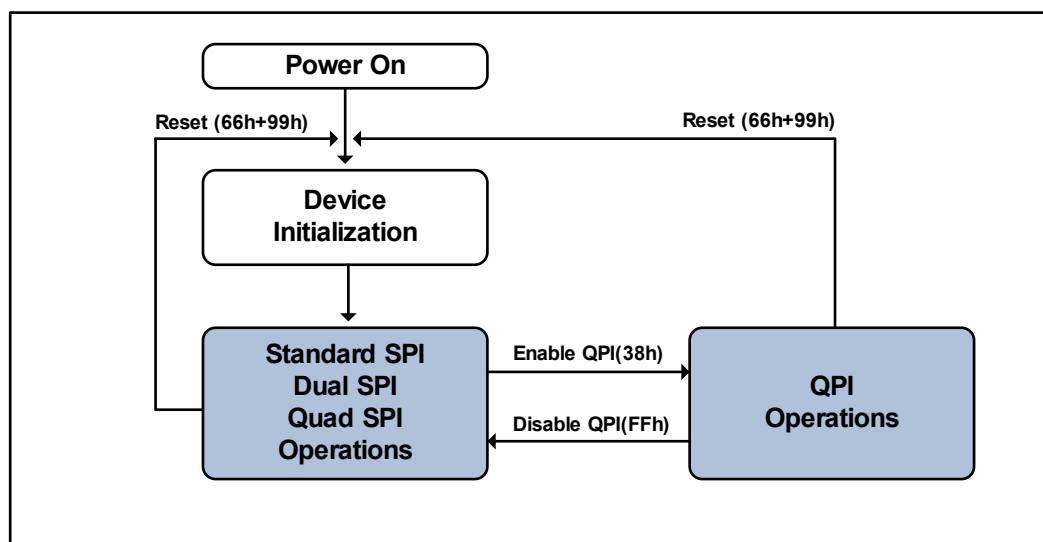

Figure 3. DS25M4AE Serial Flash Memory Operation Diagram
The DS25M4AE supports Quad Peripheral Interface (QPI) operations only when the device is switched from Standard/Dual/Quad SPI mode to QPI mode using the “Enter QPI (38h)” instruction. The typical SPI protocol requires that the byte-long instruction code being shifted into the device only via DI pin in eight serial clocks. The QPI mode utilizes all four IO pins to input the instruction code, thus only two serial clocks are required. This can significantly reduce the SPI instruction overhead and improve system performance in an XIP environment. Standard/Dual/Quad SPI mode and QPI mode are exclusive. Only one mode can be active at any given time. “Enter QPI (38h)” and “Exit QPI (FFh)” instructions are used to switch between these two modes. Upon power-up or after a software reset using “Reset (99h)” instruction, the default state of the device is Standard/Dual/Quad SPI mode. To enable QPI mode, the non-volatile Quad Enable bit (QE) in Status Register-2 is required to be set. When using QPI instructions, the DI and DO pins become bidirectional IO0 and IO1, and the /WP and /HOLD pins become IO2 and IO3 respectively. See Figure 3 for the device operation modes.